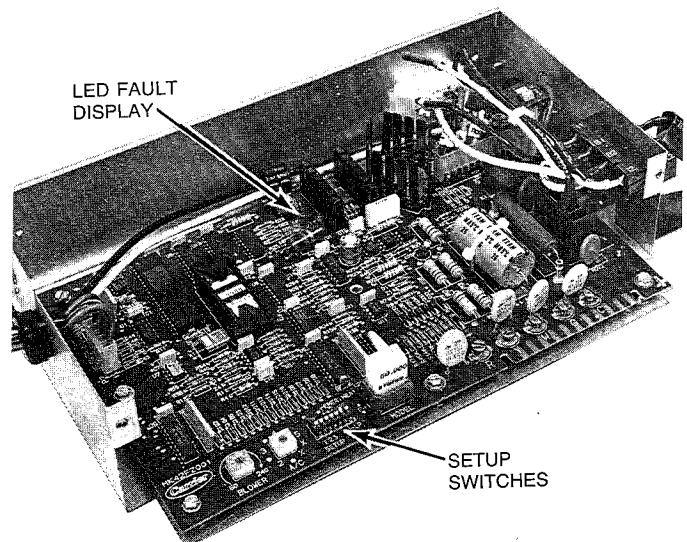

Fig. 11—Microprocessor Control Center
NOTE: Temperature rise can be determined for low-fire operation by placing setup switch No. 2 on microprocessor control board in the ON position. For high-fire operation return setup switch No. 2 to the OFF position and place setup switch No. 3 in the ON position. DO NOT forget to return setup switches to OFF position upon completion. See Fig. 11.
- d. Check to make sure bypass humidifier switch on microprocessor control board is in ON position when a bypass humidifier has been installed. See Fig. 11.
An isolated set of normally open contacts (not connected to 24VAC or 120VAC) are available to operate any accessory such as an electronic air cleaner or humidifier. The relay contact will close whenever the blower motor is operating. These contacts are accessible by two 1/4-inch quick-connects mounted directly on the relay as shown in Fig. 11. Wire leads with quick-connects have been supplied as part of the control box wiring to simplify hookup per the three possible combinations shown in Figs 12, 13, or 14.
4. Snip wire tie that surrounds accessory hookup leads shown in Fig. 11.
NOTE: If a bypass humidifier is used, bypass humidifier switch on the microprocessor control board must be put in ON position to increase the low-heat blower motor speed. This prevents nuisance limit trips caused by the increase in return-air temperature caused by the bypass from the humidifier. See Fig. 11 for location of BHP setup switch.
For proper furnace operation, follow the installation, startup, and adjustment instructions provided by the modulating damper system manufacturer. In addition, the multi-zone switch (labeled MZ on the microprocessor control board) must be put in the ON position so that the microprocessor can vary the blower speed to compensate for dampers that may have modulated closed during any given heating or cooling cycle. See Fig. 11 for location of multi-zone setup switch MZ.